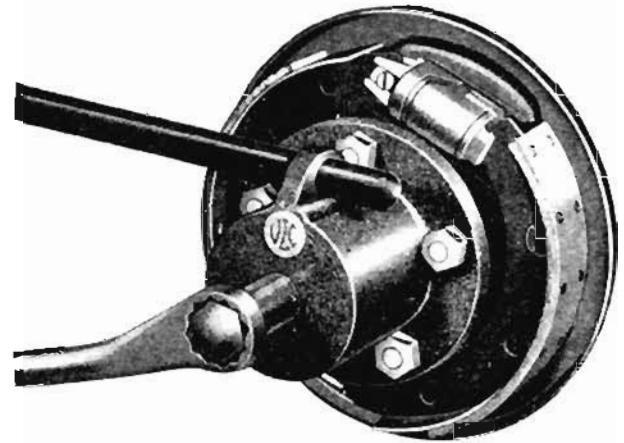

Fig. 3 Extraction of rear hub.
- (ii) Withdraw split pin and remove castellated nut from end of half shaft and remove rear hub with extractor, as shown in Fig. 3.